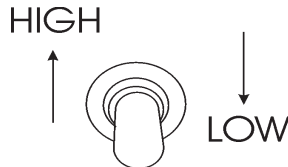

Figure 48. Engine Throttle Control
8. Place the **engine throttle lever** in the “LOW” position (Figure 48).
10. Once the engine has started, let it run for 3-5 minutes, then turn the throttle handle control (Figure 48) to the “HIGH” position.